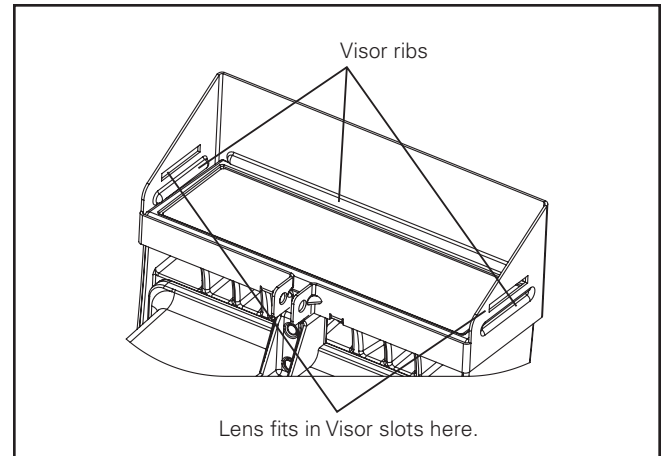
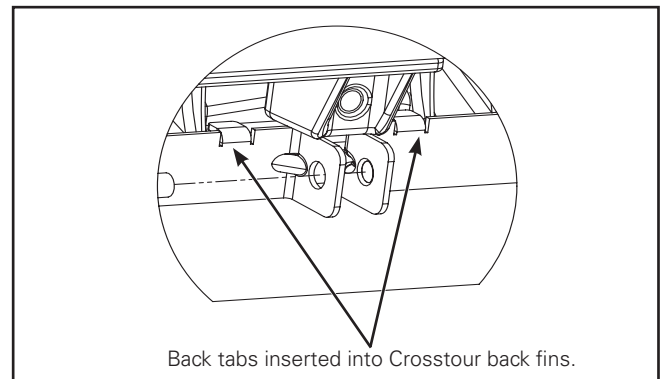
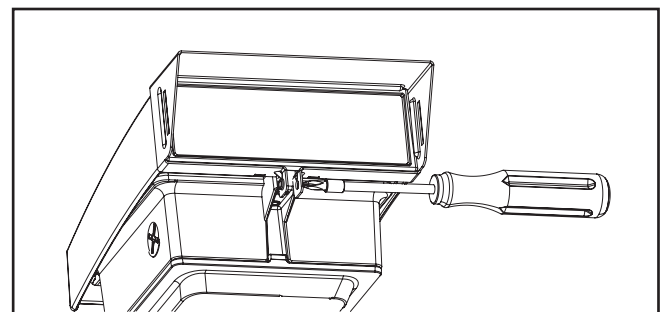

Figure 6.
Figure 7.
Figure 8.
- A. For visor installation only. Select the correct size lens (Small: 7W, 18W, 26W models. Large: 38W model). Remove protective film on the impact guard lens. Insert the lens into the corresponding slots of the visor by flexing the visor (Figure 6).
- B. To attach the visor, select the correct visor size. Slide the visor around the front Crosstour housing. The visor ribs should rest on the bottom surface of the Crosstour housing (Figure 6). Seat visor back tabs into the Crosstour fin cavity (Figure 7). Insert the 8-32 x 3/4" long, thread forming screw through the visor screw hole and tighten until visor is secure. Tighten/torque to 20-25 in-lbs. (Figure 8.).